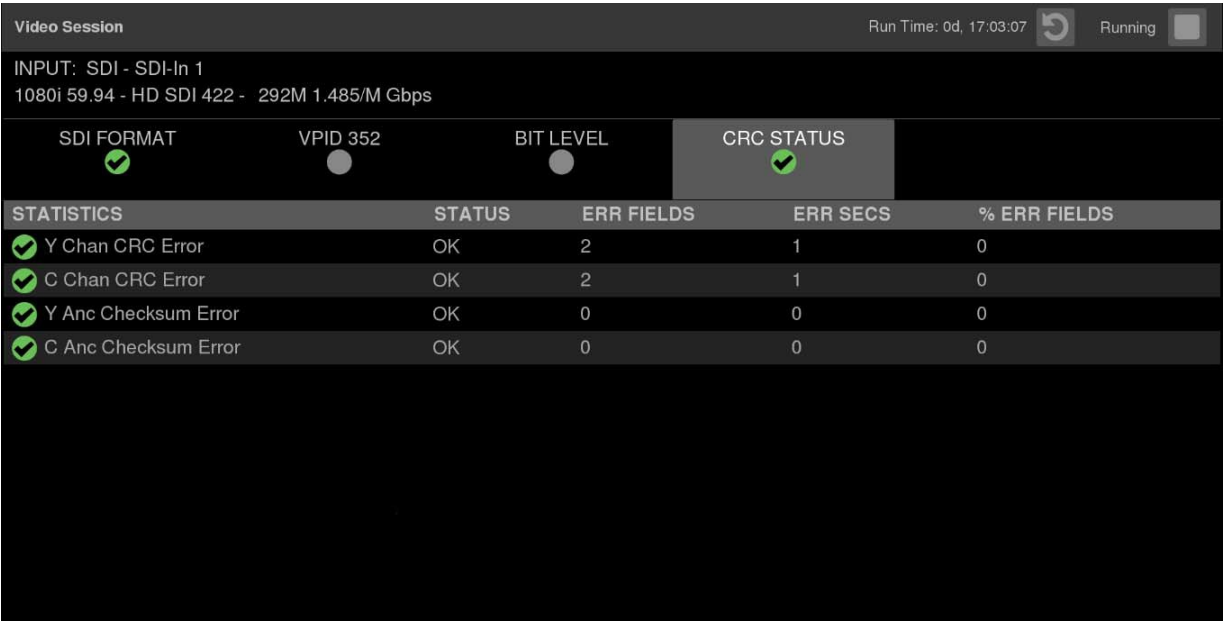

Figure 124: Video Session application – CRC STATUS tab display
**CRC STATUS tab display**     Use the CRC STATUS tab display to view the status of CRC and Checksum errors in the video signal. (See Figure 124.)